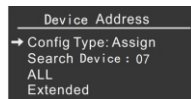
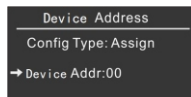
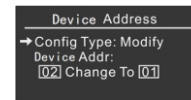

Figure 42 (Assign-Page 1)
Figure 43 (Assign-Page 2)
Figure 45 (Modify)
Enter control gear parameters configuration page as shown in above Figure 7 to Figure 9. Short press up key $\triangle$ or down key ∇ to select "Device Address", then short press confirm key $\leftarrow$ to enter "Device Address" page as shown in following Figure 42 to Figure 45. There are 3 types of configuration: "Assign", "Delete", "Modify" available for Device Address configuration. When the arrow cursor moves to point to "Config Type", short press plus key $+$ or minus key $-$ to select a configuration type.
Select "Assign" configuration type, the first page of Assign configuration type is shown as in following Figure 42. Short press up key $\triangle$ or down key ∇ to select an operation item, the second page of Assign configuration type is shown as in following Figure 43.
Select "Modify" configuration type shown as in following Figure 45. Short press up key $\triangle$ or down key ∇ to select an operation item.
-- "Device Addr" is to modify address of a push button input device which has already been addressed with a new specific address as shown in following Figure 45, The address on the left side is the old address 02, and the address on the right side is the modified new address 01. When the arrow cursor moves to point to address number, short press plus key $+$ or minus key $-$ to increase or decrease the address number. Short press confirm key $\leftarrow$ to confirm current address modification.